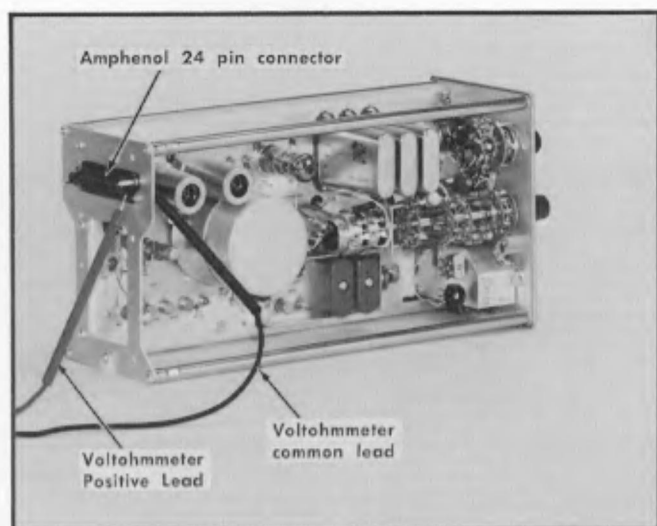

Fig. 4-3. Location of 24 pin Amphenol connector.
5. Check Resistances to Ground. Check the resistance to ground on each of the pins on the Amphenol 24 pin connector, Fig. 4-3. Table 4-2 shows pin numbers, approximate resistance which should be seen and the use of each pin.